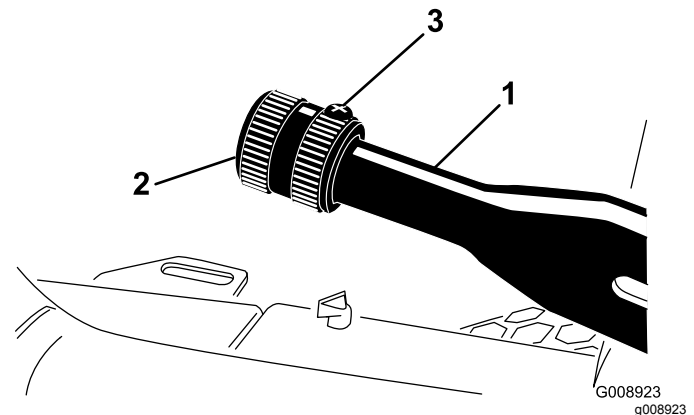

Figure 69
1. Loosen the set screw that secures the knob to the parking brake lever (Figure 69).